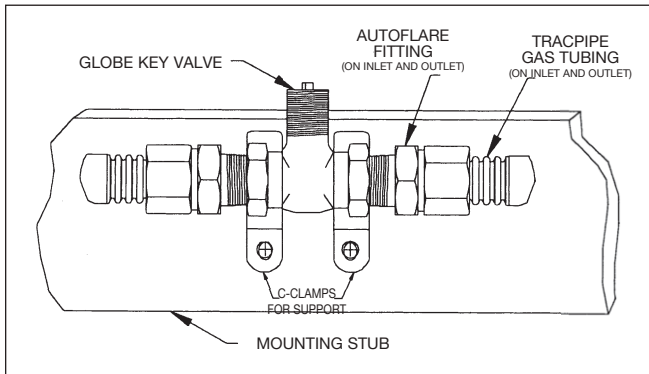

Figure: 4-14
- Flexible piping connections to fireplace “key valves” can be located in a concealed location, when accessibility is not readily provided. See Figures: 4-14 and 4-15